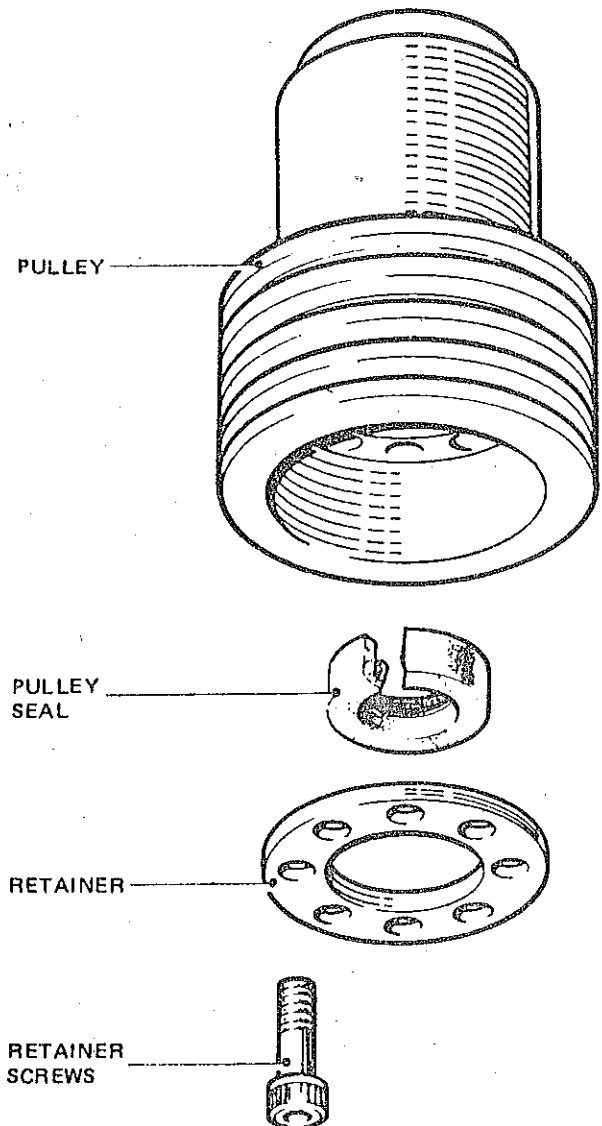

Figure 6. Pulley Seal and Retainer
- (d) If your machine is of the sanitary design, remove the pulley seal retainer screws from inside the pulley and pull out the pulley seal retainer, gasket and pulley seal (Figure 6).